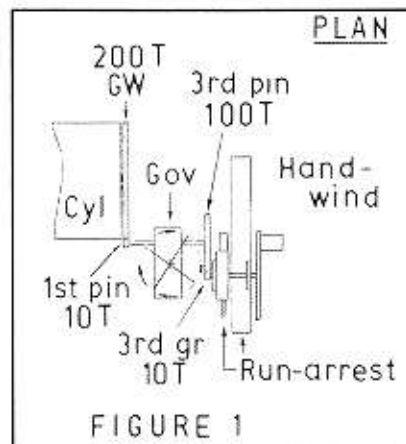

Fig 1. (left) Interrelation of governor, run-arrest and handwind units
driving the *pinion of the second wheel* the shaft can continue through the governor to link with two further facilities. The first of these is a run-arrest mechanism based on ref 1.4. The second is a hand-wind unit which will serve three purposes: namely, testing of governor and run-arrest device; checking fitment of comb to bed plate and; test-playing of pinned music pending provision of a mainspring unit. The interrelation of these three devices is shown schematically in plan by fig 1 and photo 1.
E Line of 3 dia. arbor through M and K to carry 3rd gear at centre distance of 27.75mm from 3rd pinion (see fig 1)